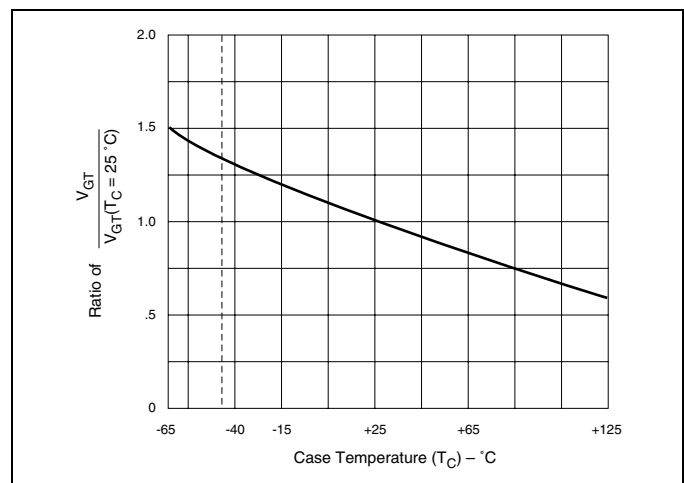

Figure E2.12 Normalized DC Gate Trigger Voltage for All Quadrants versus Case Temperature
- (6) See Figure E2.12 for V_{GT} versus T_C.